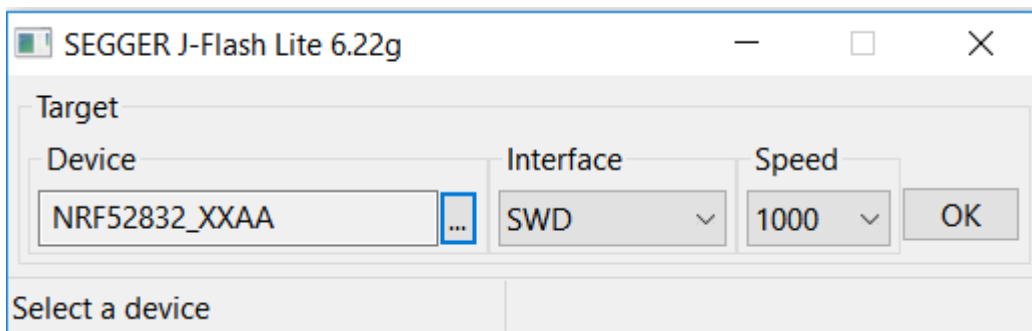

Figure 1 : Segger J-Flash configuration
2. Select the NRF52832_XXAA target, SWD interface and 1000 kHz clock speed (see Figure 1)